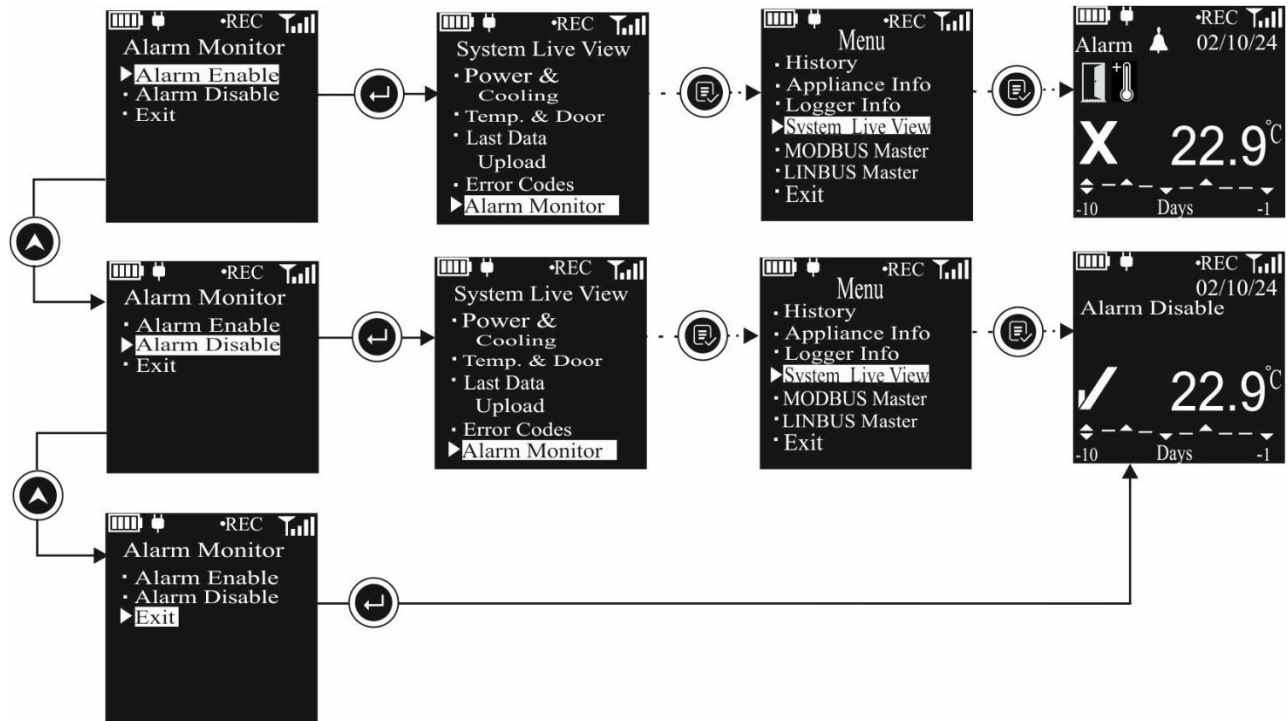

Figure 24 Alarm Monitor selection Menu
5. **Alarm Monitor:** When an appliance is out of service or no longer storing vaccines, alarms should be disabled to save energy. The user can enable or disable alarm monitoring through the menu, as shown in figure 24. If "**Alarm Disable**" option is selected, the audio-visual alarm indication will be disabled and this status will be displayed on the device display. Alarm monitoring can be re-enabled at any time by selecting the appropriate option from the Alarm Monitor menu.